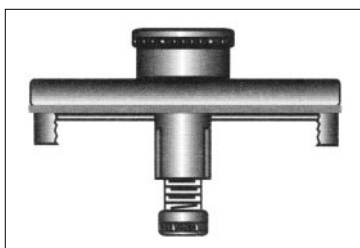
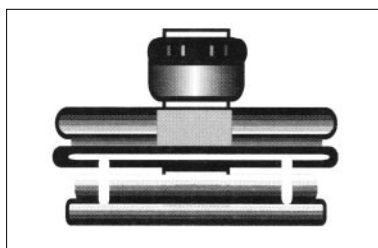

Figure 2a. Style a) Cap Assembly Screw Cap
Figure 2b. Style b) Shur-Loc® Cap Assembly Compression Cap
- Packaged with Cap Style - a) Cap Assembly Screw Cap (Fig. 2a), Cap Style - b) Shurloc® Cap Assembly Compression Cap (Fig. 2b) is available as an option.
- Packaged with Cap Style - b) Shur-Loc Cap Assembly Compression Cap (Fig. 2b)